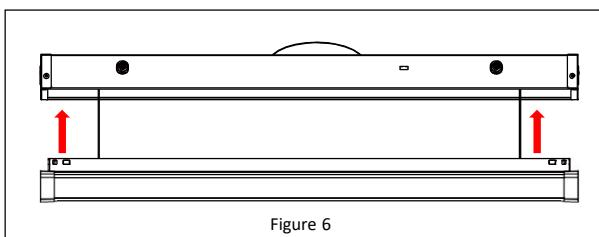

Figure 6
- Close the fixture by carefully pushing the lens into the body of the fixture making sure not to pinch any wires. **See Figure 6.**